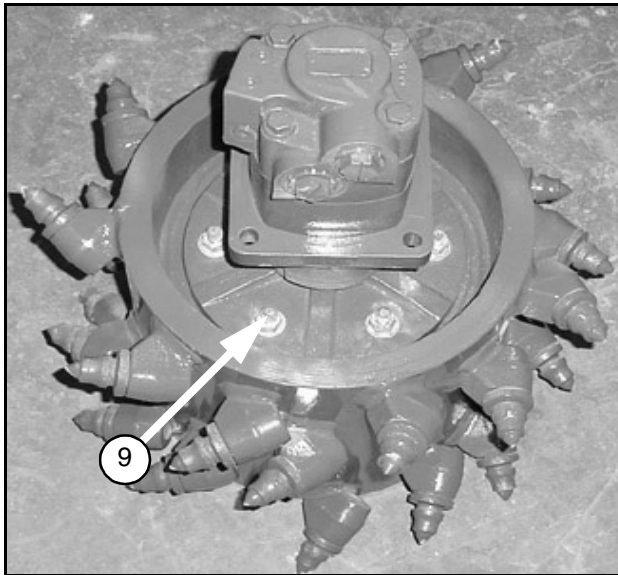

Figure 21.
13. Turn the drum onto its side with the bearing side down, as shown in Figure 21.
14. Remove 6 nuts (9) that secure the hub to the drum. The studs may back out of the drum when attempting to remove these nuts. This is common and will not effect the operation of the planer upon reassembly.